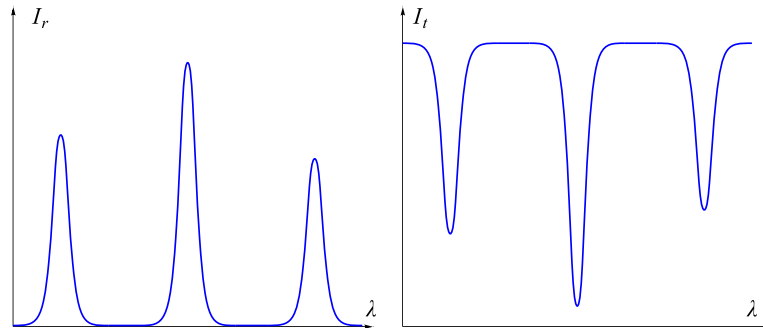

Fig. 9: Reflectance and transmittance spectra.
Equation (2) is called the **Bragg-Snell law**. Transmittance minimums are observed at the same angles θ_i . If angle θ is constant, and wavelength λ varies, Bragg-Snell law may be regarded as an equation for λ . Fig.9 shows sketches of reflectance and transmittance spectra. Each transmittance minimum corresponds to some integer m value according to the Bragg-Snell law.
The Bragg-Snell law (2) describes angles and wavelengths, where reflectance maximums and transmittance minimums may be observed (fig. 9). Transmittance values depend on the internal structure of the period.